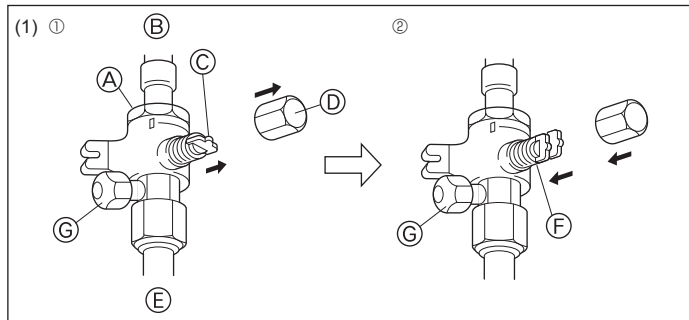
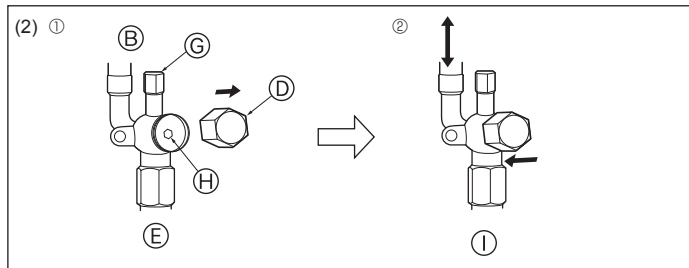

Fig. 4-12
Fig. 4-13
(1) Gas side (Fig. 4-12)
- ① Remove the cap, pull the handle toward you and rotate 1/4 turn in a counterclockwise direction to open.
- ② Make sure that the stop valve is open completely, push in the handle and rotate the cap back to its original position.
(2) Liquid side (Fig. 4-13)
- ① Remove the cap and turn the valve rod counterclockwise as far as it will go with the use of a 4 mm hexagonal wrench. Stop turning when it hits the stopper. (ø6.35: Approximately 4.5 revolutions) (ø9.52: Approximately 10 revolutions)
- (A) Valve
- (B) Unit side
- (C) Handle
- (D) Cap
- (E) Local pipe side
- (F) Open position side
- (G) Service port
- (H) Wrench hole